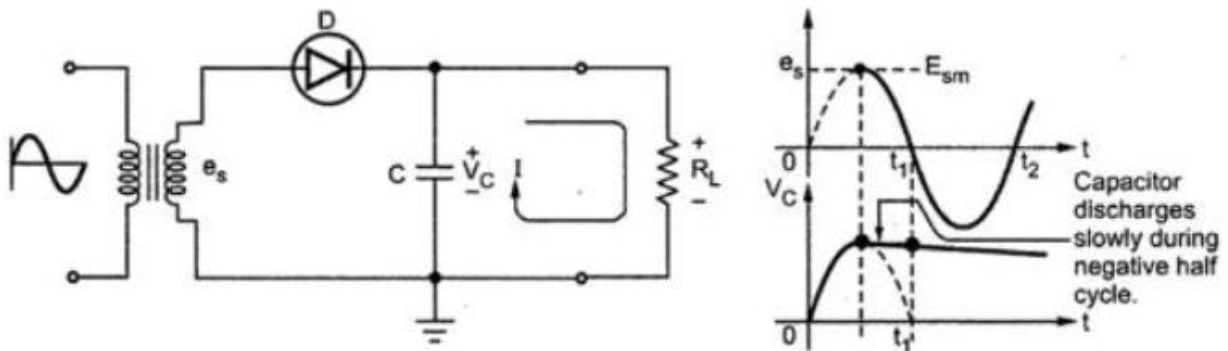

Fig. 1.37 Capacitor discharges through load resistance
- So during the entire negative half cycle and some part of the next positive half cycle, capacitor discharges through R_L as shown in the Fig. 1.37.